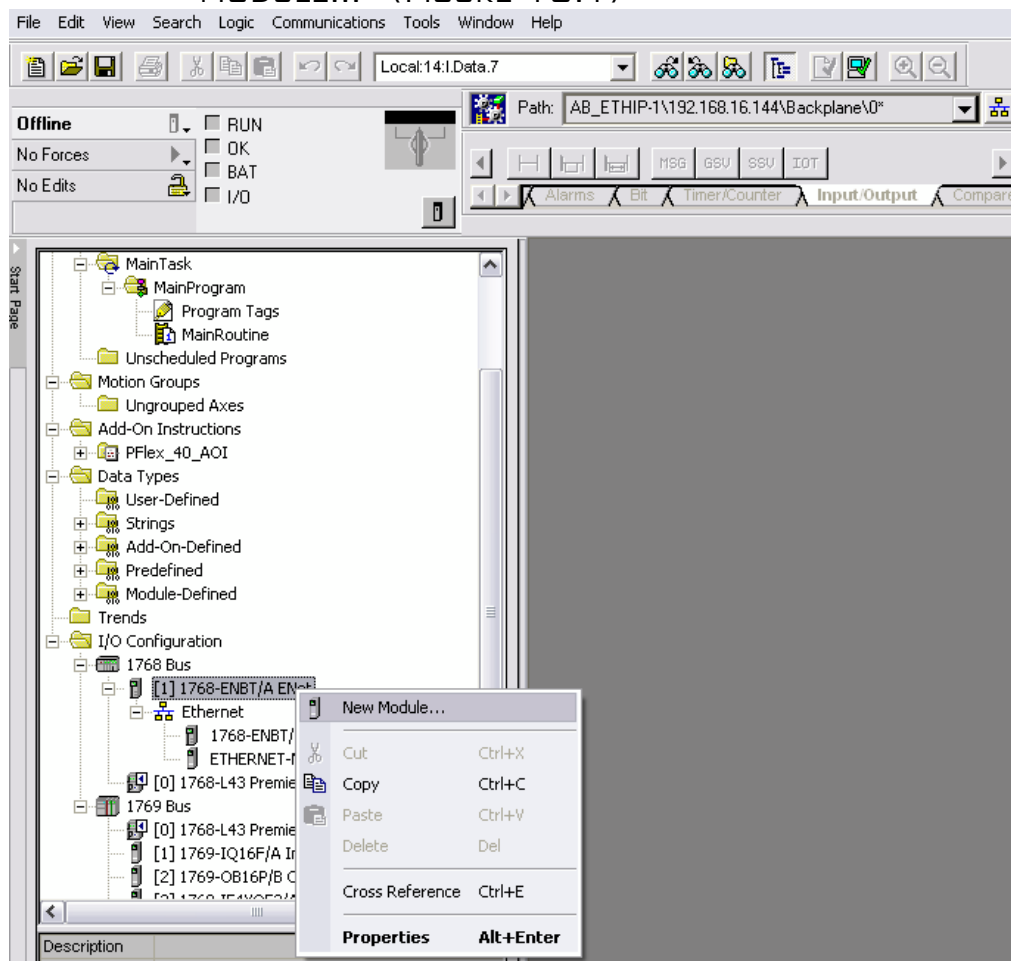

FIGURE 10.1
- B. RIGHT CLICK ON YOUR ETHERNET MODULE AND SELECT “NEW MODULE...” (FIGURE 10.1)